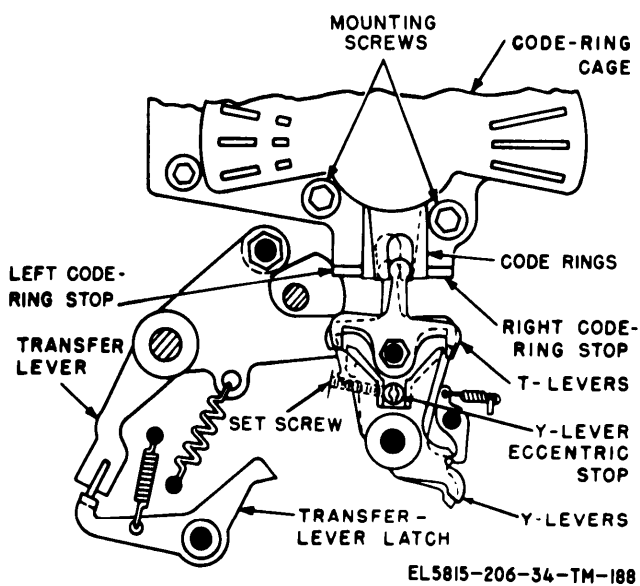

Figure 3-116. Y-lever eccentric stop preliminary adjustment.
*b. Adjustment.* Loosen the two mounting screws that secure the code-ring cage to the side casting (fig. 3-116). Turn the code-ring cage either clockwise or counterclockwise until the requirements in *a* above are met. Tighten the screws. Check related adjustments (para 3-142, 3-149, 3-150, and 3-209).
(fig. 3-116)